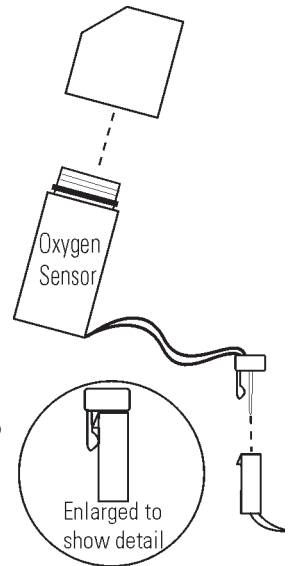

Figure 5-13. Detail
4. Lift up slightly on the tab securing the sensor wire terminal connection. Be careful not to break the tab off. See enlarged detail of Figure 5-13.